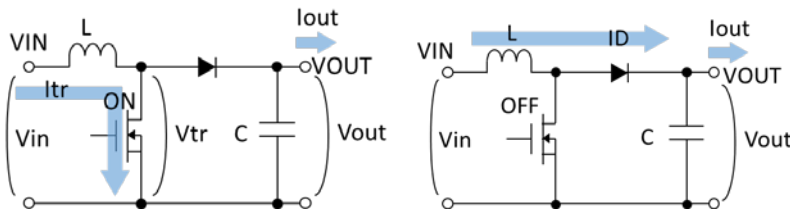
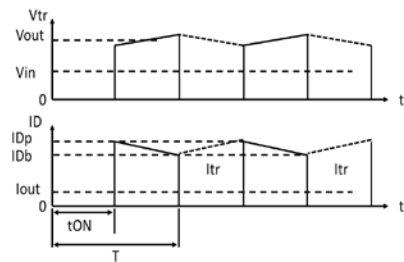

Figure 2.1 Current path through an asynchronous rectification voltage boost circuit
Figure 2.2 Waveforms of the ideal voltage boost circuit
This subsection describes the principle of operation of asynchronous rectification using the circuit shown in Figure 2.1. When the MOSFET is on, current flows from VIN to GND via the MOSFET. At this time, inductor L stores the energy of an electric current. When the MOSFET turns off, inductor L tries to maintain the current at the same level by generating a voltage across its terminals. A voltage boost circuit steps up voltage by adding the voltage generated by inductor L to the voltage from VIN. Since the energy released from inductor L decreases over time, a step-up operation is repeated by turning on and off the MOSFET periodically. The stepped-up voltage is smoothed by capacitor C before it comes out of VOUT. Figure 2.2 shows the voltage (Vtr) and current (ID) waveforms of the diode.